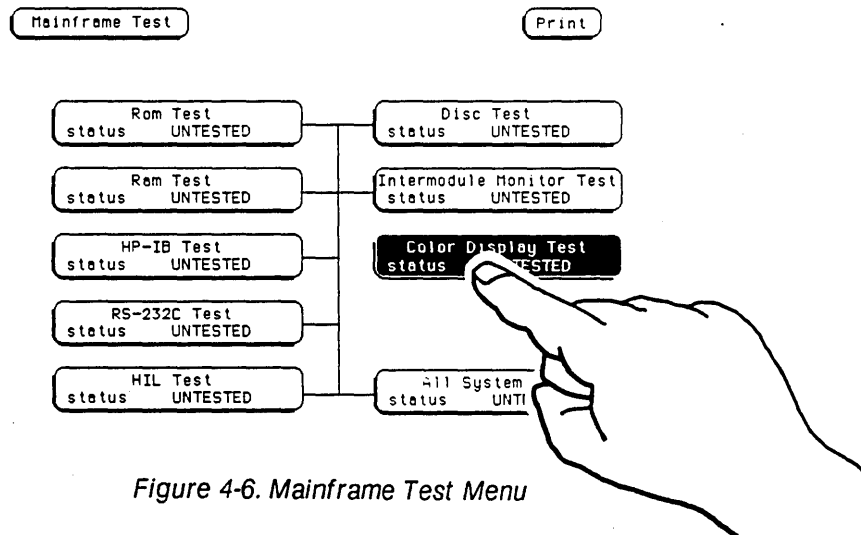
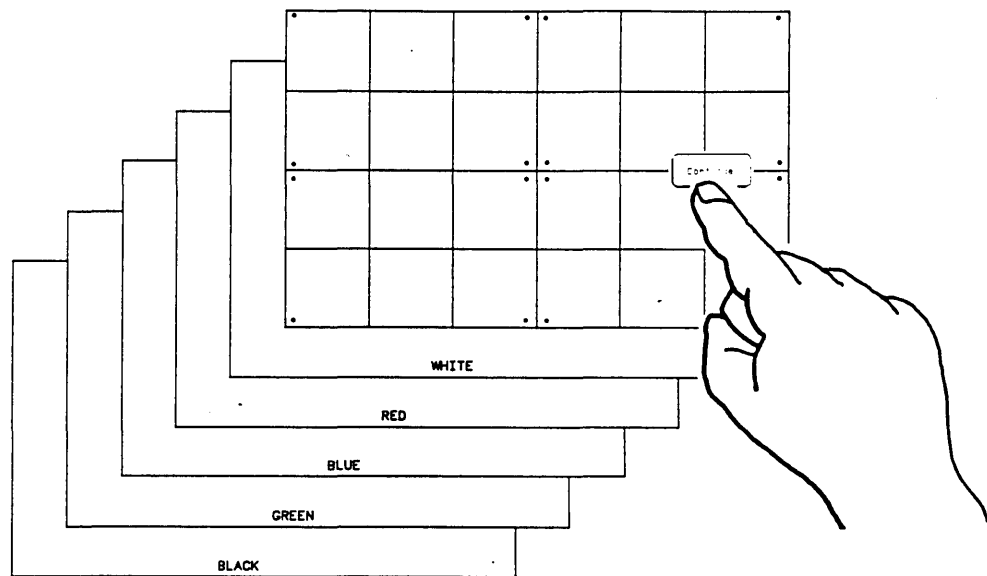

Figure 4-6. Mainframe Test Menu
Figure 4-7. Selecting the Test Patterns
6. The Mainframe Test menu is now displayed (see figure 4-6). Select the **Color Display Test** field to call up the white cross hatch test pattern, the first test pattern in the system (see figure 4-7).
- With every touch of the **Continue** field, the next test pattern will be displayed (see figure 4-7).